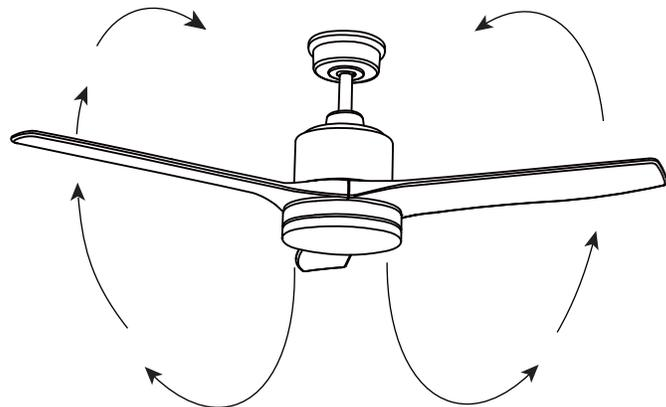

Figure 16
* Warm weather - (Forward) A downward air flow creates a cooling effect as shown in Figure 16. This allows you to set your air conditioner on a higher setting without affecting your comfort.